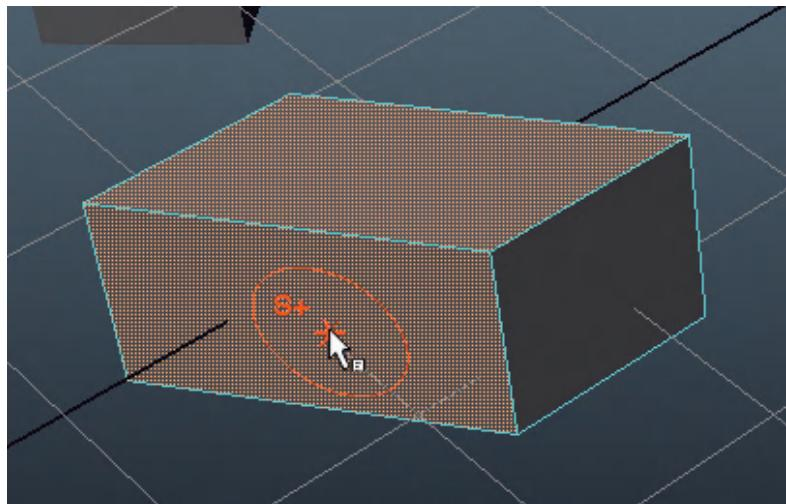

FIG 2.18 Using the Paint Selection Tool to paint across faces.
Step 21: Activate the Paint Selection Tool. Paint across faces on the cube (Fig. 2.18).